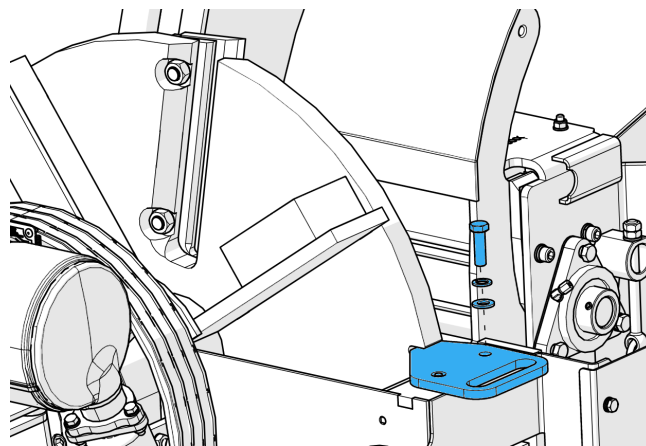

Figure 59 - Installing the flywheel locking tool
6. Turn the flywheel until it is in the locking position (Figure 59).
7. Insert the flywheel locking tool into the groove on the flywheel. The groove becomes visible once the wheel is in the correct position (Figure 59).